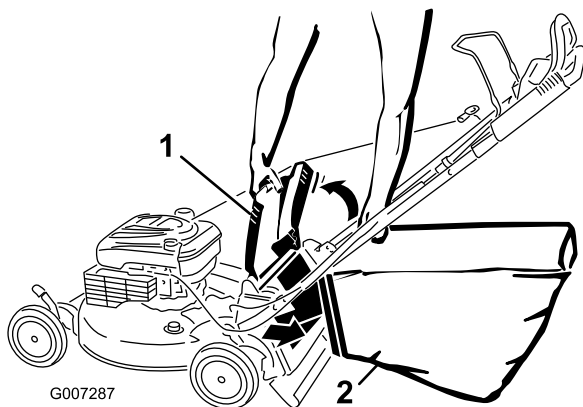

Figure 27
4. Hang the upper front edge of the bag on the notches (Figure 27).